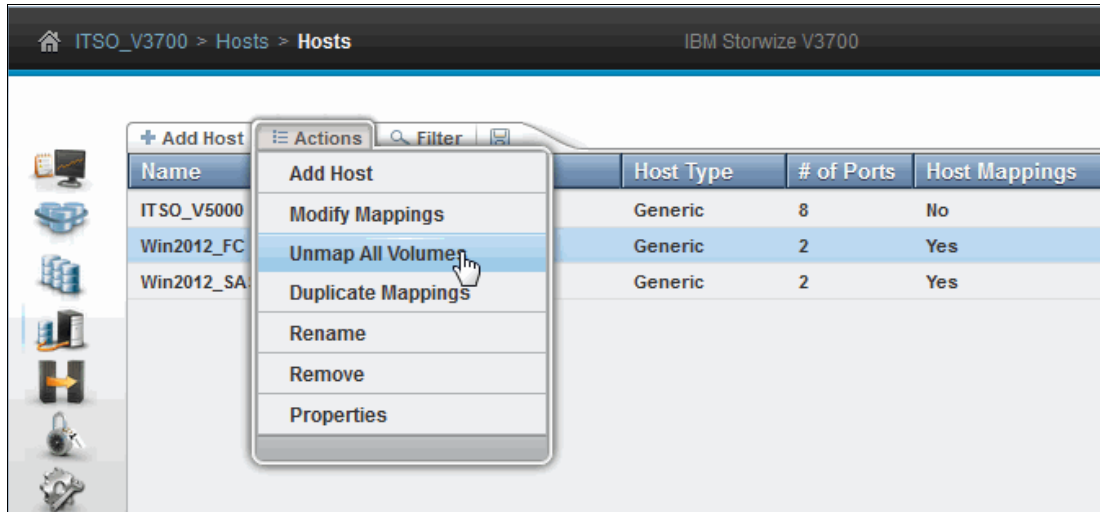

Figure 8-12 Unmap all volumes
- To unmap all volumes from a host, select a host from the Hosts pane and, using the Action menu, click **Unmap all Volumes**, as shown in Figure 8-12.